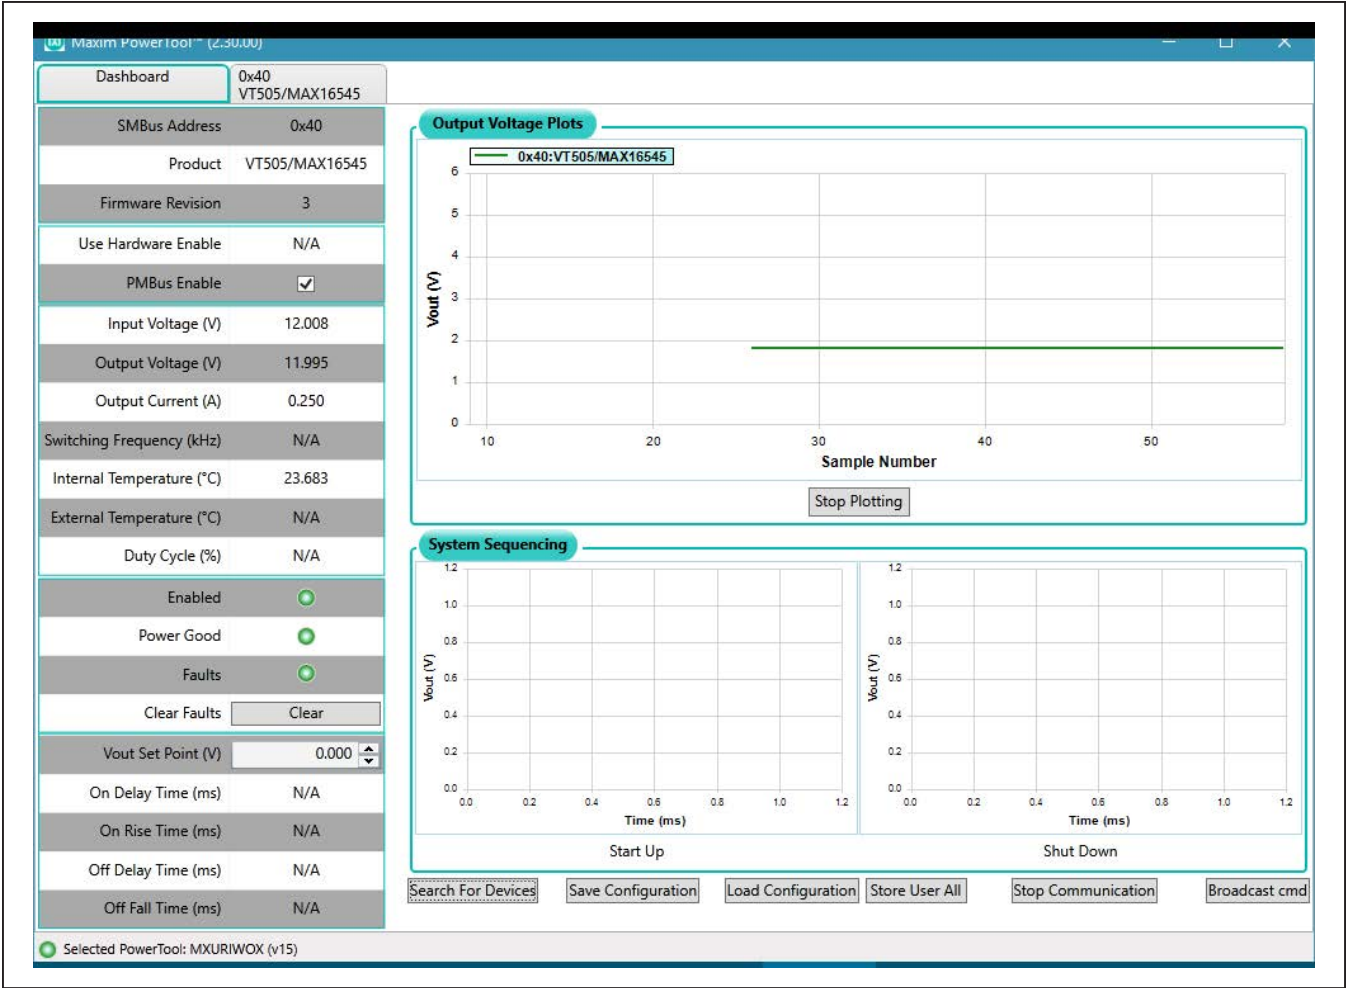

Figure 2. PowerTool GUI connected to an enabled MAX16545B device
- 11) Switch on S2 to enable the EV kit output. Check that the toggle of S2 illuminates green. The GUI should not show that the output is enabled, as shown in Figure 2.